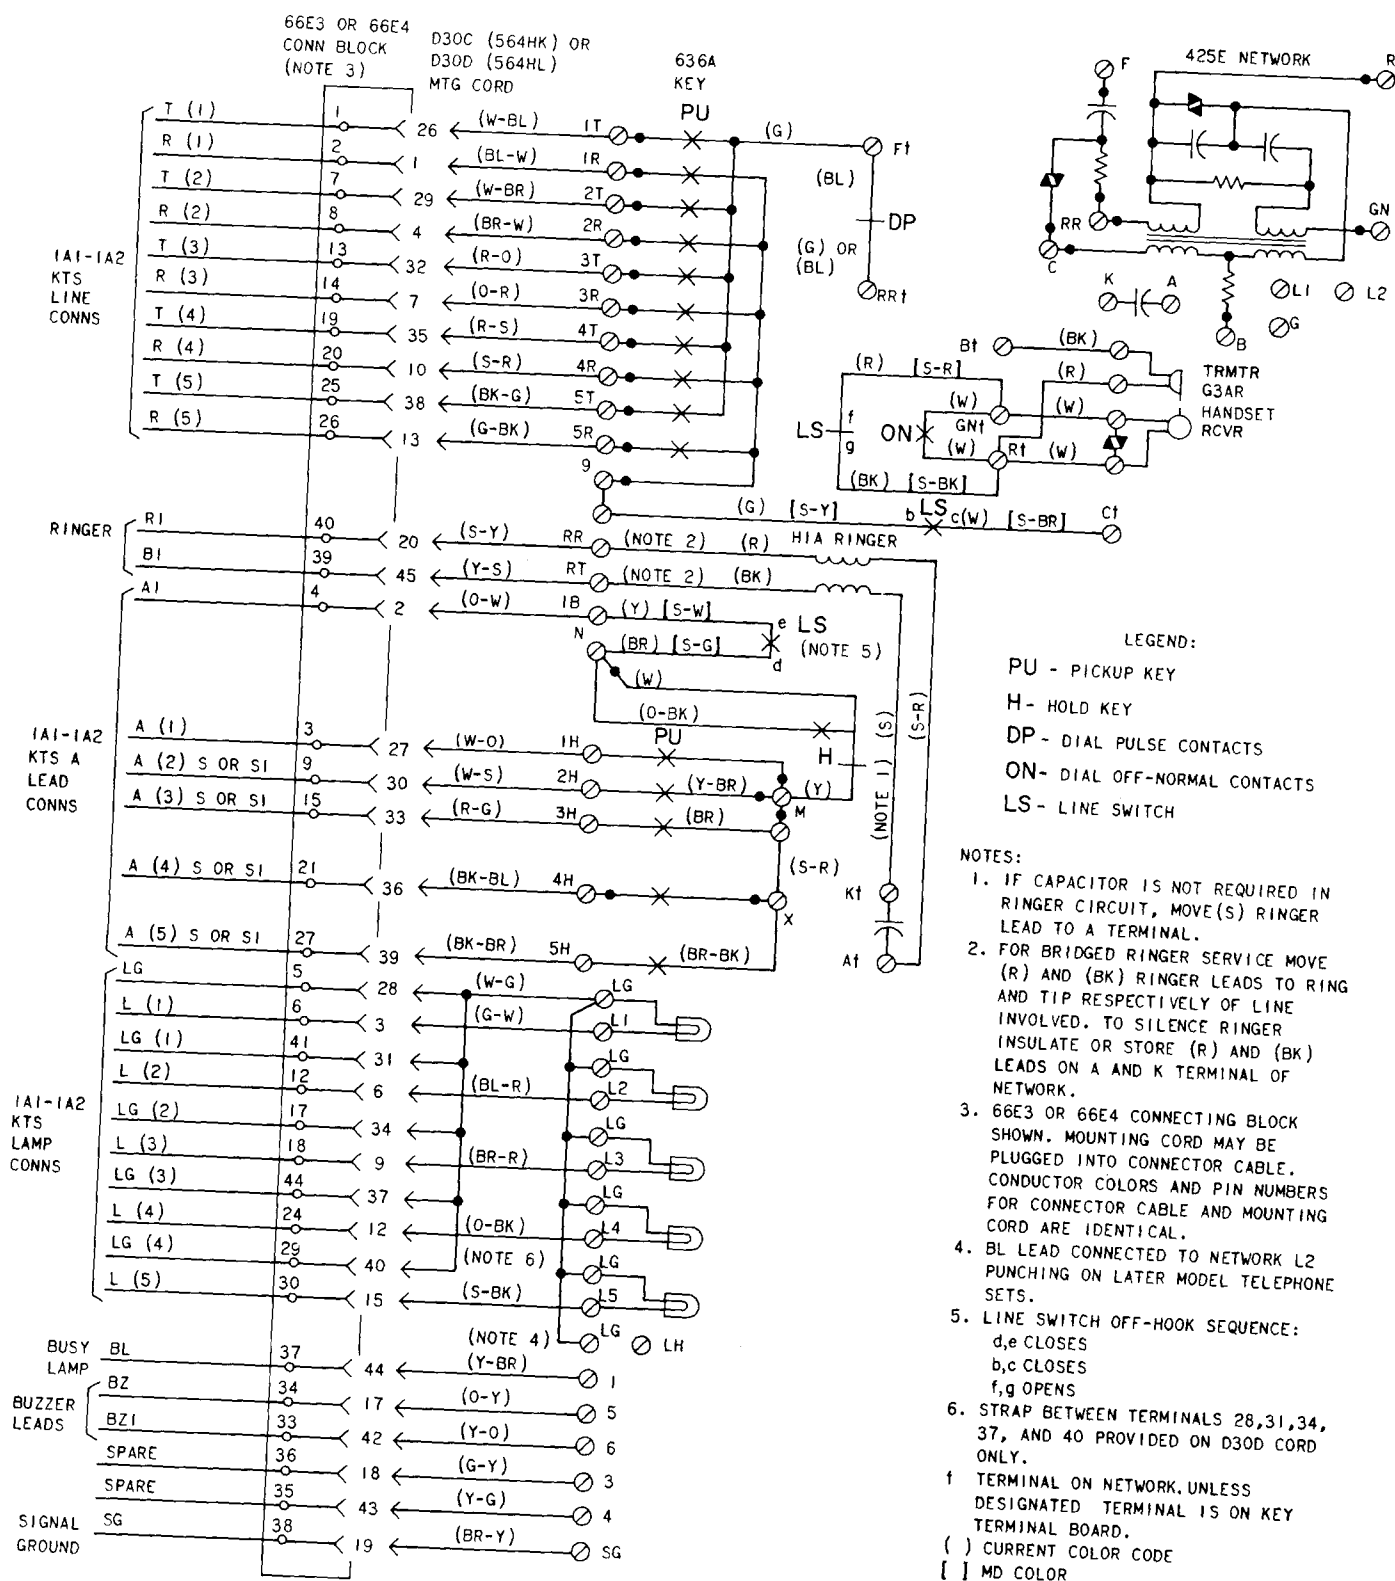

Fig. 1—564HK (MD) and 564HL Telephone Set, Connections
3.02 Red and black ringer leads are factory-wired to terminals RR and RT. Refer to notes in Fig. 1 for ringer connections when bridged ringing on a particular line is desired.